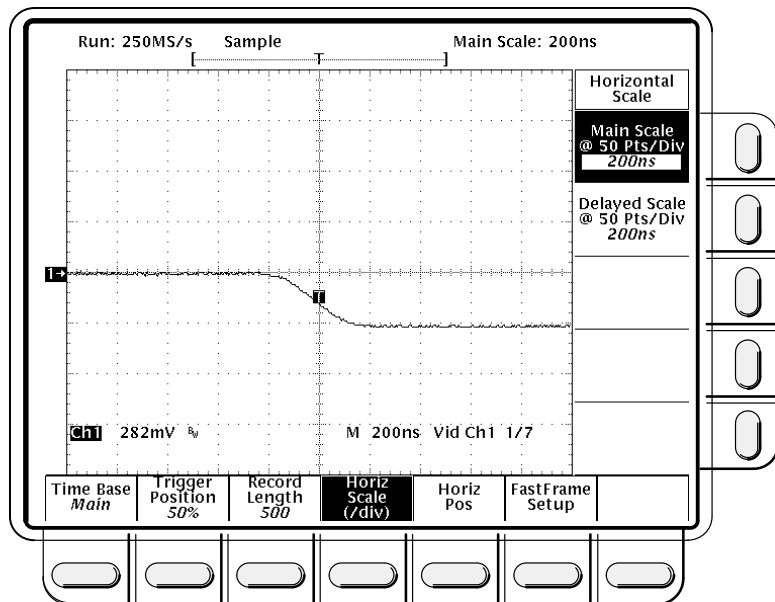

Figure 1-28: Jitter Test Displayed Waveform
b. CHECK that the oscilloscope lights up its front panel **TRIG'D** LED and it displays the waveform on screen (See Figure 1-28).